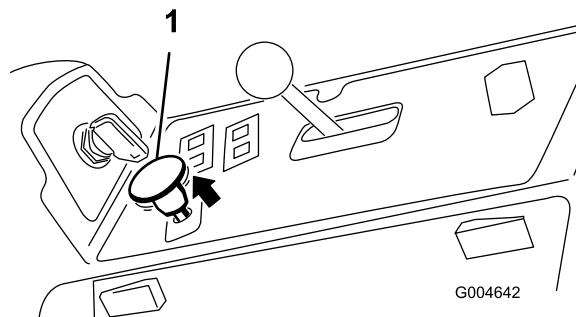

Figure 58
3. Pull up on the PTO switch to engage it (Figure 58).